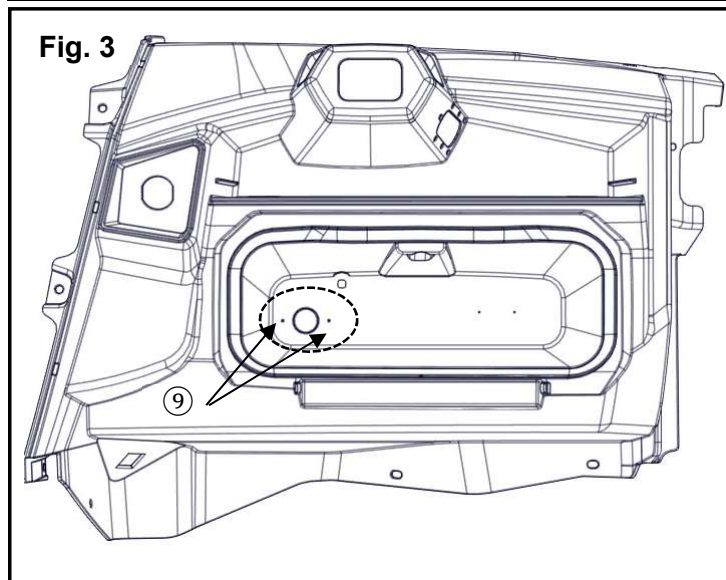

Fig. 3
10. Look for a 7/8" circle inside the glovebox. This is the mounting location for the remote in the bottom of the glovebox. Drill a pilot hole, and then use a hole saw to cut a 7/8" hole for the connector, feed the 5 Remote Control Cable through the hole. Route the 5 Remote Control Cable into the electrical bay and to the Contactor. Coil up excess wire and secure with cable ties. (Fig. 3)
11. Use two 9 #2 Phillips Head screws to secure connector to the glovebox. (Fig. 3)